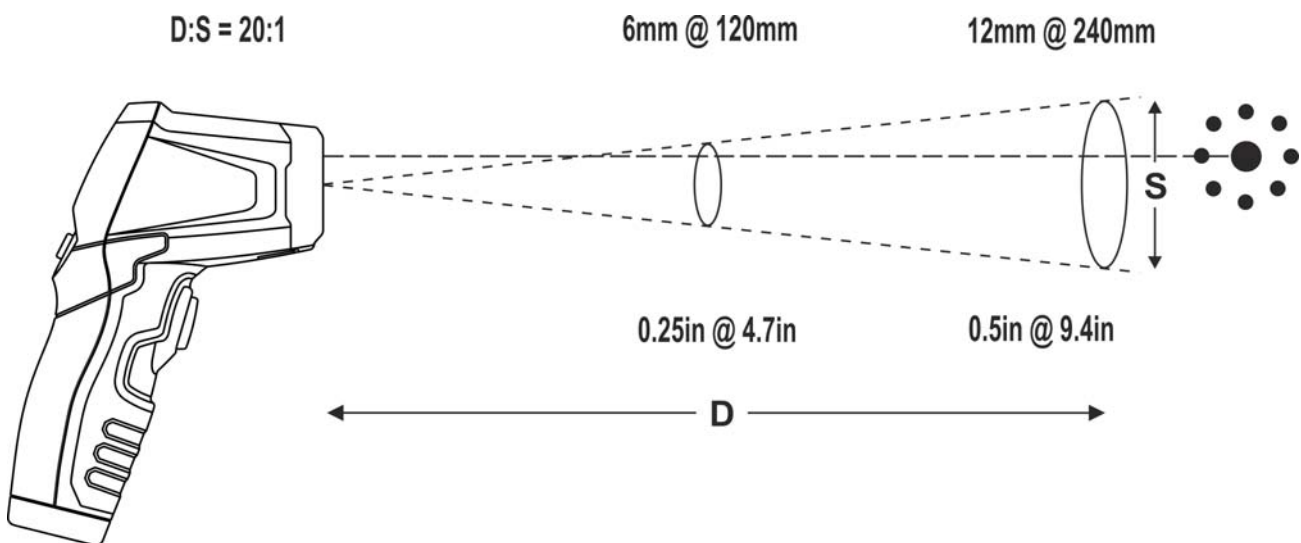

Fig. 4: Distance / Spot ratio of the instrument
5. Make sure that the target, whose temperature is to be measured, is at least as large as the unit's spot (see Fig. 4). The smaller the object is, the closer you should be to it (Example: if the distance from the object is 240mm – 9.4inch, the section of the object should be at least of 12mm – 0.5inch for a correct temperature measurement). **When accuracy is critical, make sure the object is at least twice as large as the spot size**